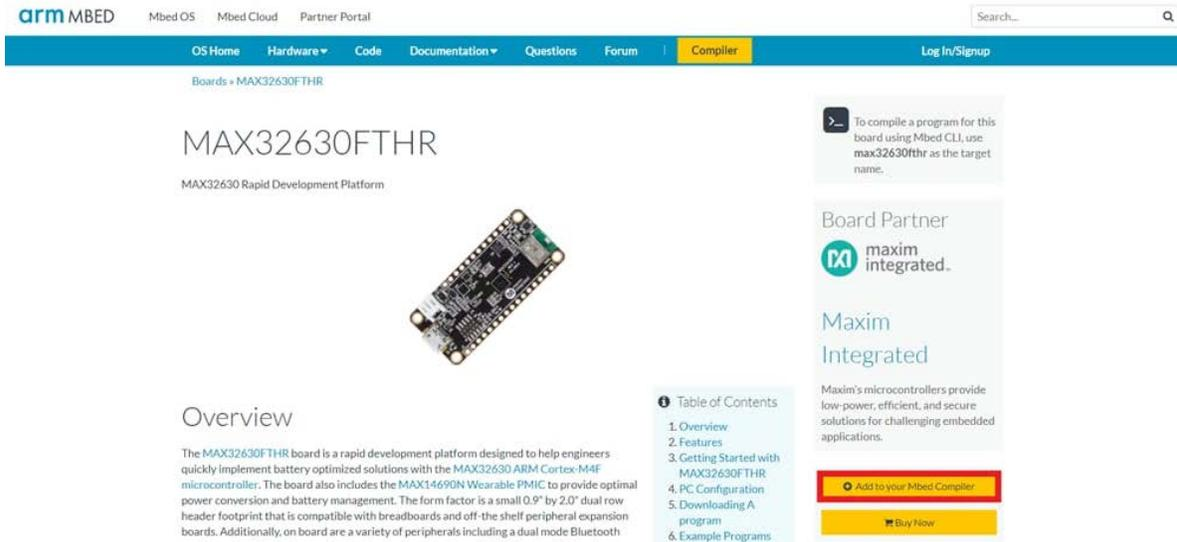

Figure 2. Highlights the Add to your Mbed Compiler button in a red box on the MAX32630FTHR Mbed landing page.
2. After signing in, navigate to the MAX32630FTHR Mbed landing page by clicking the following link, os.mbed.com/platforms/MAX32630FTHR. On the right-hand side, click the **Add to your Mbed compiler** button to add the MAX32630FTHR as a target microcontroller board to your compiler. **Figure 2** highlights the **Add to your Mbed compiler** button with a red box on the MAX32630FTHR landing page.